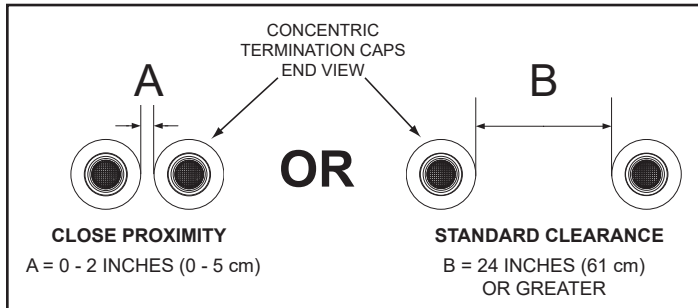
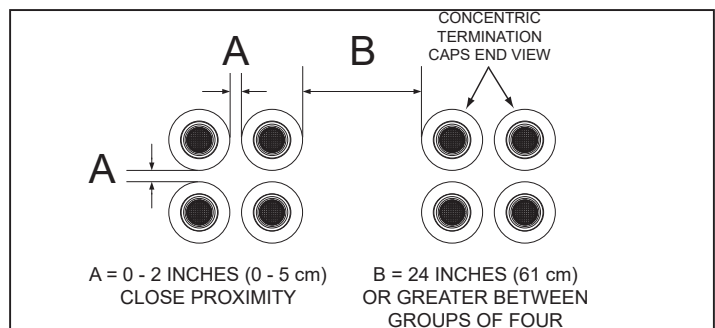
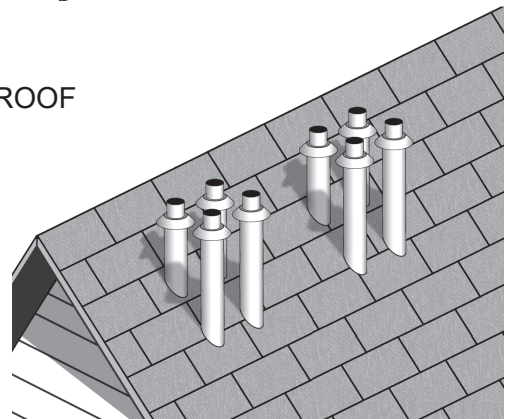

Figure 45. Two Concentric Terminations
Figure 49. Eight Concentric Terminations
Figure 52. Eight Concentric Terminations - Sidewall and Roof
When installing multiple concentric terminations through a roof or through a sidewall, the clearances shown in *Figure 45* (page 43) through *Figure 49* (page 43) must be maintained.
1. The clearance between multiple termination caps must be 0 in (0 cm) / touching to a maximum of 2 in (5 cm), dimension A - **Figure 45**, when installing concentric terminations in close proximity. See **Figure 45** through **Figure 49**.
2. The clearance between multiple termination caps must be increased to a minimum of 24 in (61 cm), dimension B - **Figure 45**, when installation in close proximity (above) is not possible. This is the standard clearance.
1. When installing multiple groups of concentric terminations through a roof or through a sidewall in close proximity, they can be installed into stacked groups of four as shown in **Figure 52** (page 44). Lateral groups of four as shown in **Figure 49** can be a more convenient installation arrangement for multiple groups, depending on available space.
Two concentric terminations can be installed in close proximity as shown in **Figure 50** or with standard clearances when this arrangement is not possible. See **Figure 45** (page 43) for detailed information